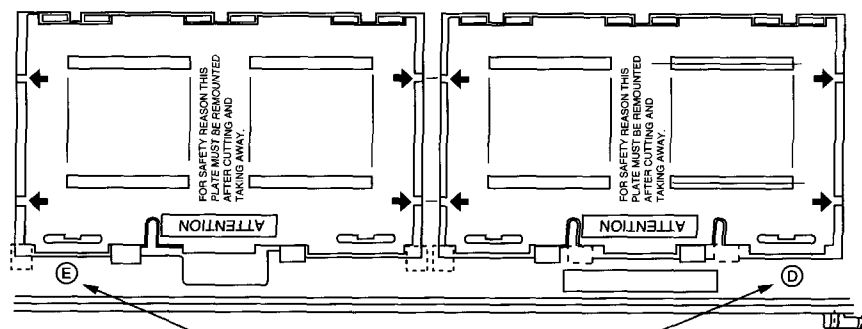

Fig 2
3. Locate the corresponding marking indicated on the main chassis bracket. See Fig 2.